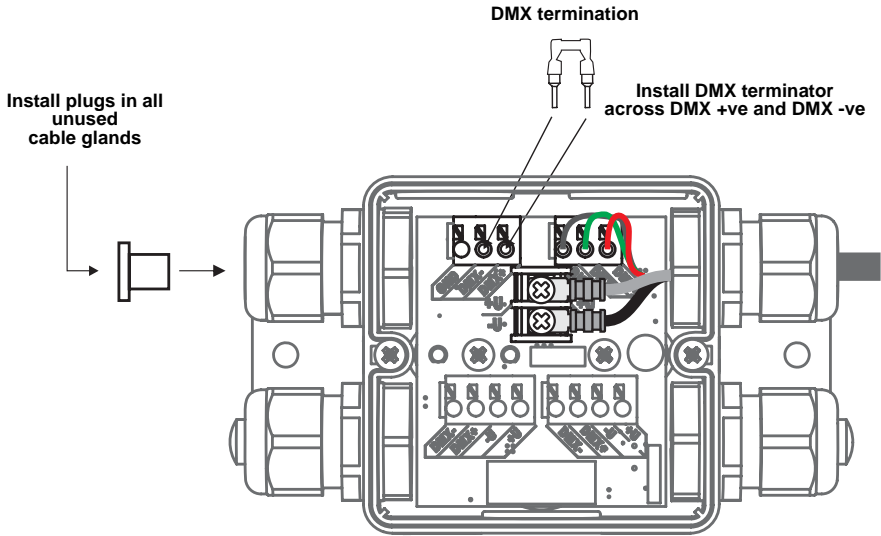

Figure 23: Terminating hybrid link in Splitter
- If you are not going to extend the hybrid link from the Splitter to another Splitter, see Figure 23:
- Install the supplied DMX terminator in the unused DMX data terminals as shown in Figure 23 so that it bridges the **DMX+** and **DMX-** terminals.
- Install the supplied DMX terminator in the unused DMX data terminals as shown in Figure 23 so that it bridges the **DMX+** and **DMX+** terminals.